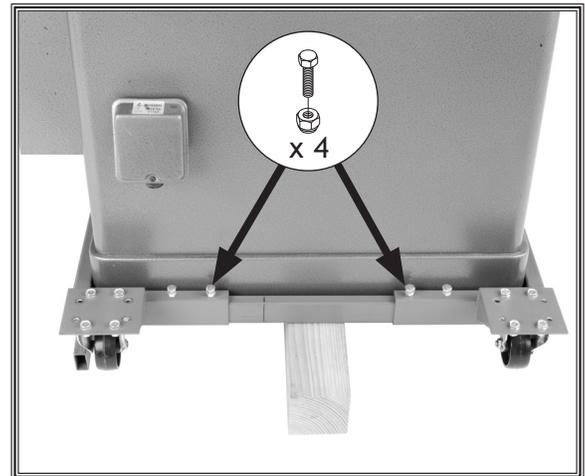

Figure 20. Rear rail-fixed caster assembly secured.
11. Fasten the corner brackets to the rail with (4) M8-1.25 x 16 hex bolts, and 8mm lock nuts, as shown in **Figure 20**.